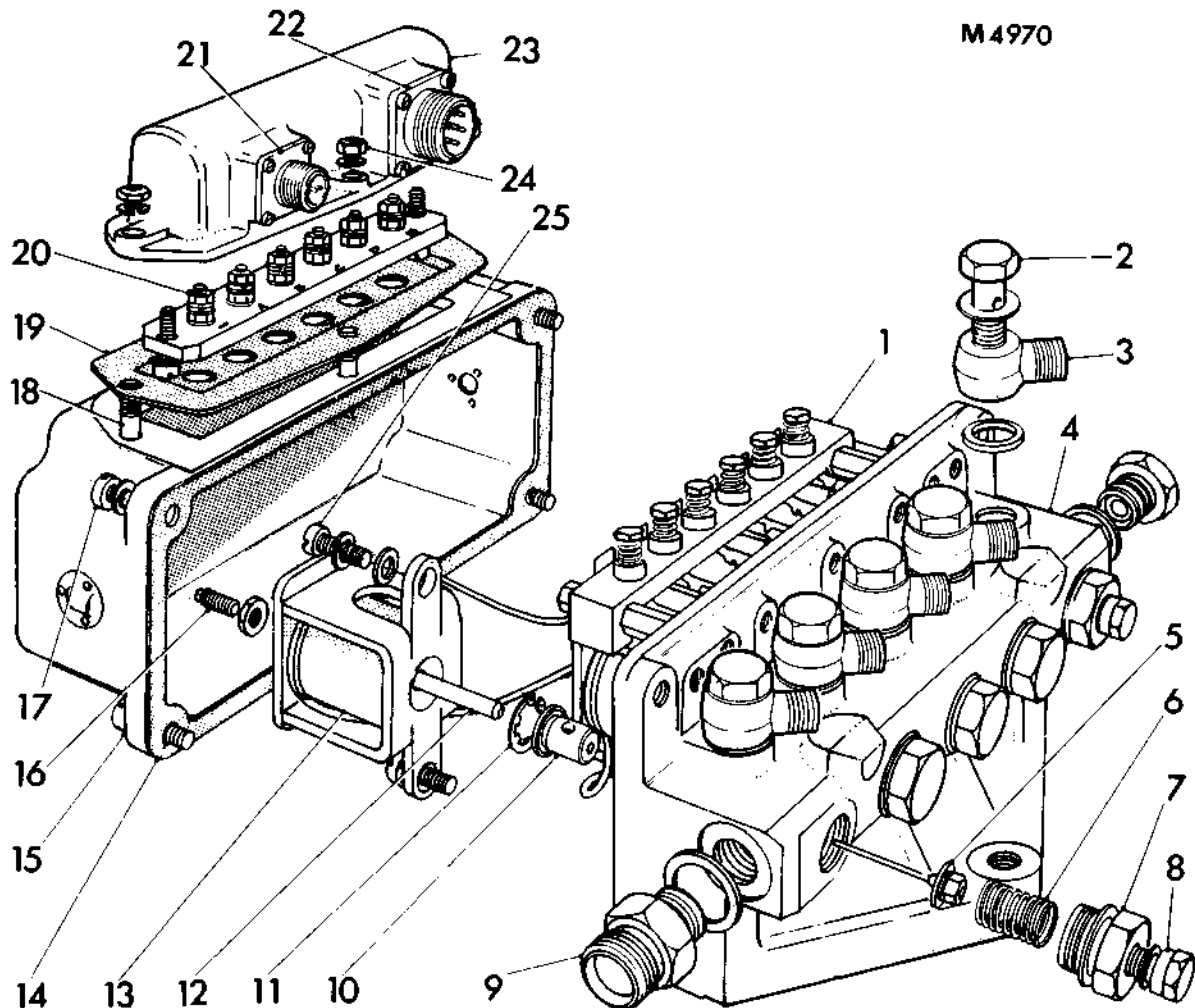

FIG. 3. 5-WAY ELECTRO-PNEUMATIC VALVE
Push the small diameter end of the special tool, item 3 Fig. 4 into the hole in the valve seat (10) Fig. 3. Hold the tool upright and ensure that the tool shoulder is flat on the face of the valve seat. Press the valve seat into the body until the face of the flange on the valve seat is seated squarely on the body. Alternatively, a light hammer may be used to drive the valve seat into the body.
### To Reassemble, Fig. 3